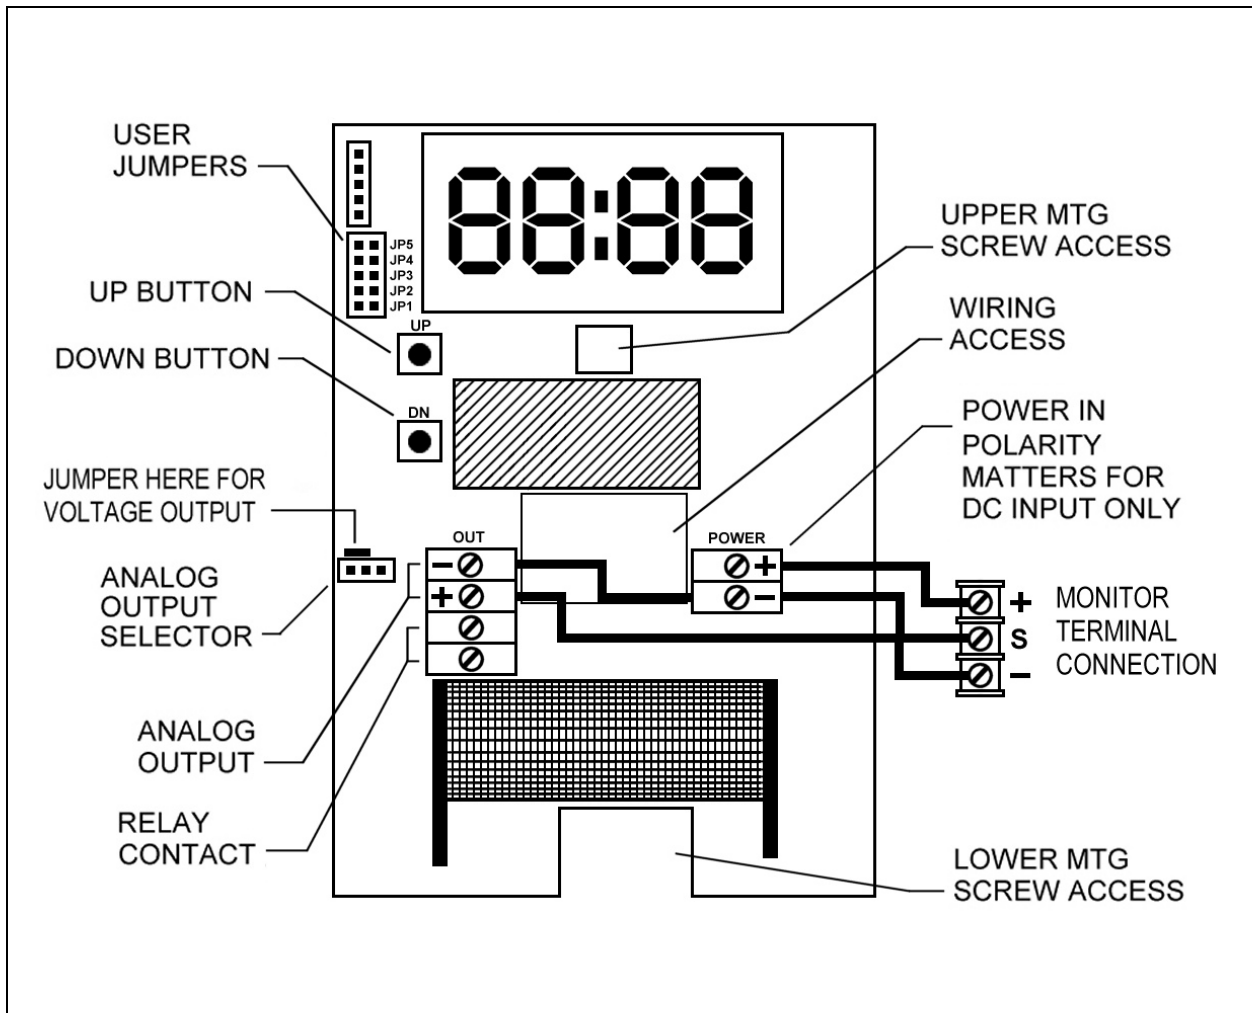

Figure 2: Model 310 Component Locations
The locations of the controls and terminals on the main circuit board are shown in Figure 2 on page 8.
The Model 310 will operate from an AC or DC input voltage between the values called out in the specifications on page 4. The power supply leads are connected to the two-terminal power connector shown in Figure 2.
When operating from DC power, the polarity of the power leads must be as shown in Figure 2. Reversed polarity connection will not damage the unit, but will make it inoperable until the connection is reversed.
The Model 310 provides either a 0 – 10 volt or a 4 – 20 mA current loop output at the two terminals of the analog output connector shown in Figure 2.
The type of analog output is determined by the setting of the analog output selector shown in Figure 2.
The analog output of the Model 310 is completely isolated from the power supply. The common outputs of multiple units can be connected together with no interaction regardless of power supply hook-up. Refer to Figure 2 for Model 310 wiring connection to an AMC monitor.
Note whether the shorting block at jumper JP5 is covering both pins or only a single pin, then borrow the shorting block and slide it over the two pins of jumper JP4 (see Figure 2). The display (if present) will show 'SEL'
1. Note whether the shorting block at jumper JP5 is covering both pins or only a single pin, then borrow the shorting block and slide it over the two pins of jumper JP4 (see Figure 2 on page 8). The display (if present) will show 'SEL'.
4. Note whether the shorting block at jumper JP5 is covering both pins or only a single pin, then borrow the shorting block and slide it over the two pins of jumper JP2 (see Figure 2 on page 5). Use the 'UP' and 'DOWN' buttons to change the concentration to the value just calculated.
2. If there is no display on the unit being calibrated, connect a current or volt meter to the analog output terminals. Check the setting of the analog output selector (see Figure 2 on page 8) to determine whether the unit is set for voltage or current output.
3. Note whether the shorting block at jumper JP5 is covering both pins or only a single pin, then borrow the shorting block and slide it over both pins of jumper JP2 (see Figure 2 on page 8).
5. If the reading differs by more than ± 75 ppm from the known concentration of the calibration gas, use the 'UP' and 'DOWN' buttons (see Figure 2 on page 8) to adjust the reading.
The setpoint value is adjusted by closing jumper JP3 (see Figure 2 on page 8). If the display is present when JP3 is closed it will show the current high limit setpoint in ppm CO₂. If there is no